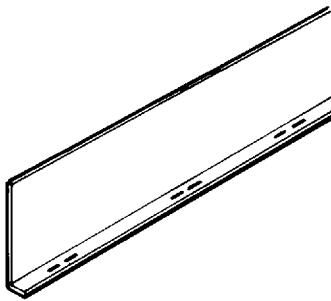

Figure 4.39
4.6.1 Barrier Strips (See Figures 4.39 through 4.46.)